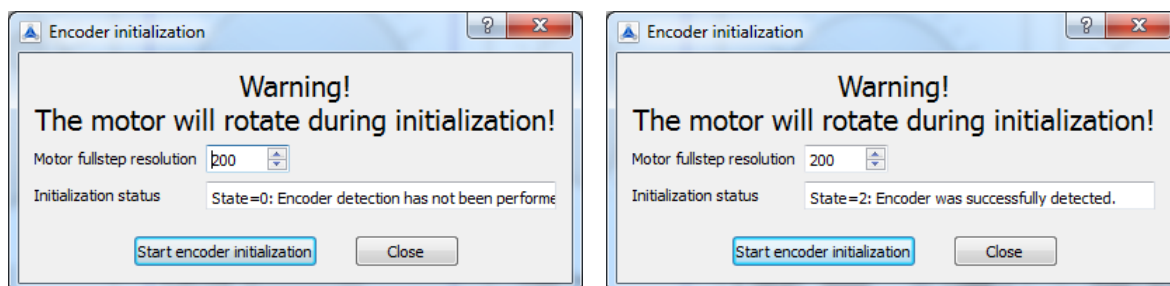

Figure 2.5 Encoder initialization window before initialization and afterwards
- For closed loop mode, initialize the encoder with the appropriate command fields (see **Figure 2.5**) first. To open up the *encoder initialization* window, click on the **Init encoder** button on the **quickstart** tab.